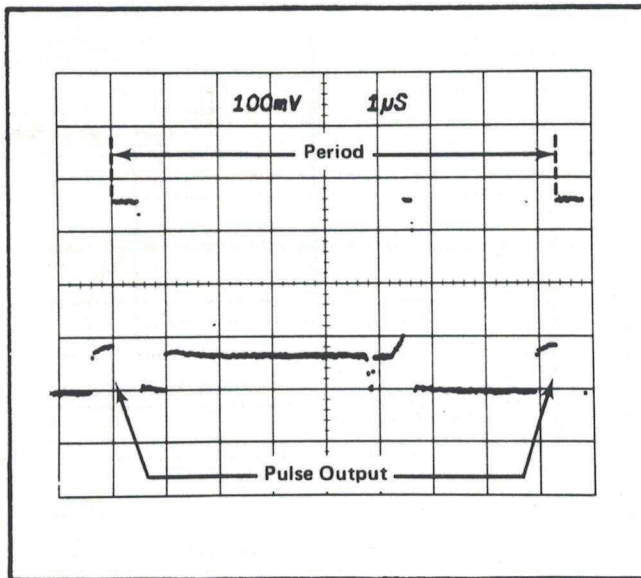

Fig. 5-5. Waveform showing PULSE OUTPUT period SN B070389 and below.
b. Set the 7T11 Trig Level control for a stable display and use the Time Position control to display two pulses. Note that the desired pulses have the wider top, and are not preceded by a sharply rising foot. See Fig. 5-5.